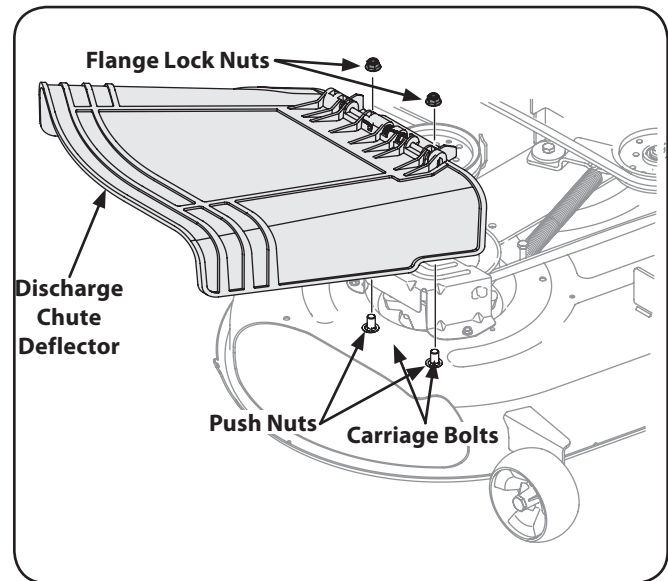

Figure 3-8
3. Install the discharge chute deflector using the carriage bolts, push nuts and flange lock nuts as shown in Fig. 3-8 and securely tighten the hardware.